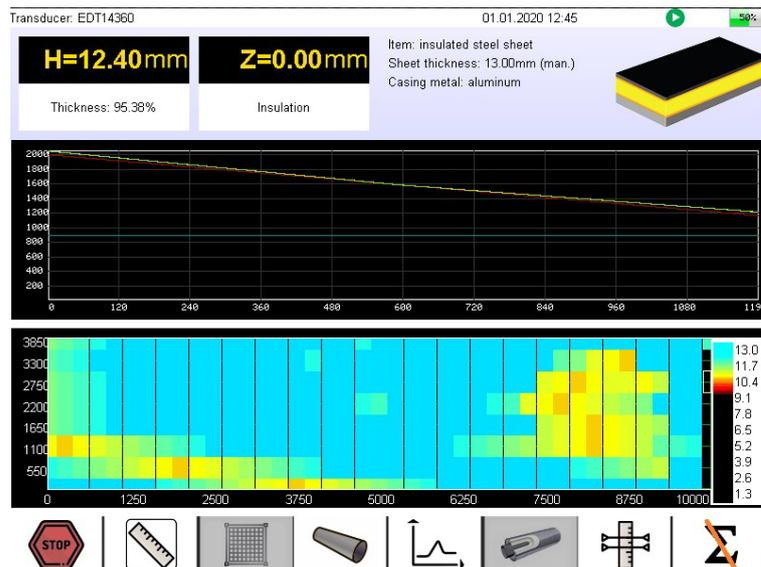

Figure 57. Example of C-scan.
- Thus, sequentially point by point, row by row, you will fill the entire C-scan. The example of such C-scan is shown in Figure 57.